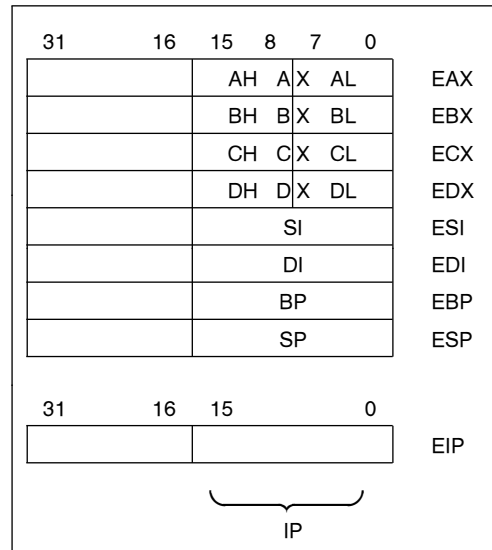

Figure 2-2. General Registers and Instruction Pointer
**General Purpose Registers:** The eight general purpose registers of 32 bits hold data or address quantities. The general registers, Figure 2-2, support data operands of 1, 8, 16, 32 and 64 bits, and bit fields of 1 to 32 bits. They support address operands of 16 and 32 bits. The 32-bit registers are named EAX, EBX, ECX, EDX, ESI, EDI, EBP, and ESP.
The instruction pointer, Figure 2-2, is a 32-bit register named EIP. EIP holds the offset of the next instruction to be executed. The offset is always relative to the base of the code segment (CS). The lower 16 bits (bits 0–15) of EIP contain the 16-bit instruction pointer named IP, which is used by 16-bit addressing.